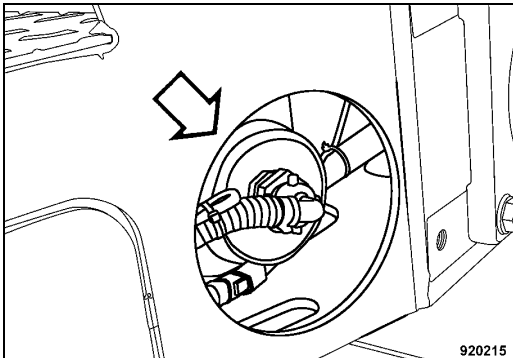

Fig. 181
- Unscrew the water hose at the water filter (Fig. 181).